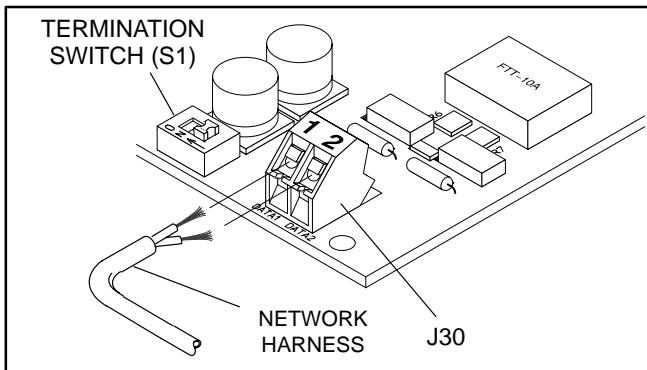

FIGURE 3. NETWORK HARNESS CONNECTION
10. Attach one end of the network harness to the Data 1 and Data 2 terminals of the two-position terminal block (J30), (polarity insensitive, see Figure 3).